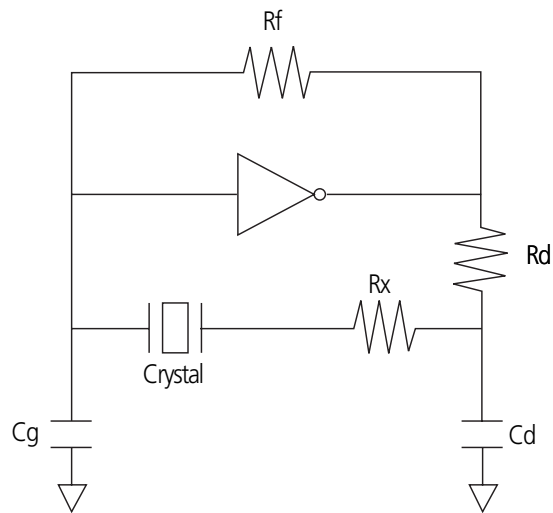

Fig.5 Example Method of Negative Resistance Measurement
- (2) The negative resistance of a circuit must be checked. Confirmation of negative resistance is possible according to Fig. 5. A goal of negative resistance is designed to 5 or more times of the resonance resistance.
- (3) The  $R_d$  in the circuit diagram is indispensable when used in a C-MOS oscillation circuit. (See Fig. 5.) If this  $R_d$  is attached, the level of drive is kept within the specified value and stable oscillation frequency can be obtained.
- (4)  $C_g$  and  $C_d$  should be used within the range of 10 ~ 30pF. If  $C_g$  and  $C_d$  are used below 10pF or above 30pF, oscillation may be easily affected by circuit performance, level of drive may increase, of negative resistance may decrease, thus failing in maintaining stable oscillation.
- (5) The layout for crystal oscillation circuits should be arranged as short as possible. The stray capacitance between circuits and ground patterns should be reduced. Crossing of crystal oscillation circuits patterns over other circuit patterns should be avoided.
- (6) If the circuits used, IC types, and IC manufactures are different, frequency, level of drive, and negative resistance should be confirmed.